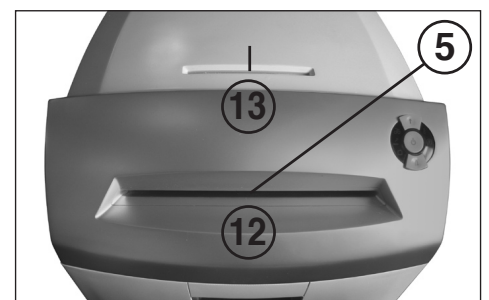

fig. 3
- 5 = Light barrier (forwards running) (fig. 3)**
- 12 = Paper feed slot (fig. 3)**
- 13 = Safety feed slot (fig. 3)**
Feed **paper** into the cutting mechanism through the paper feed slot (12) (Fig. 3).
Feed **data carriers** (CD, DVD or credit card) into the cutting mechanism individually into the separate safety feed slot (13) (Fig. 3).